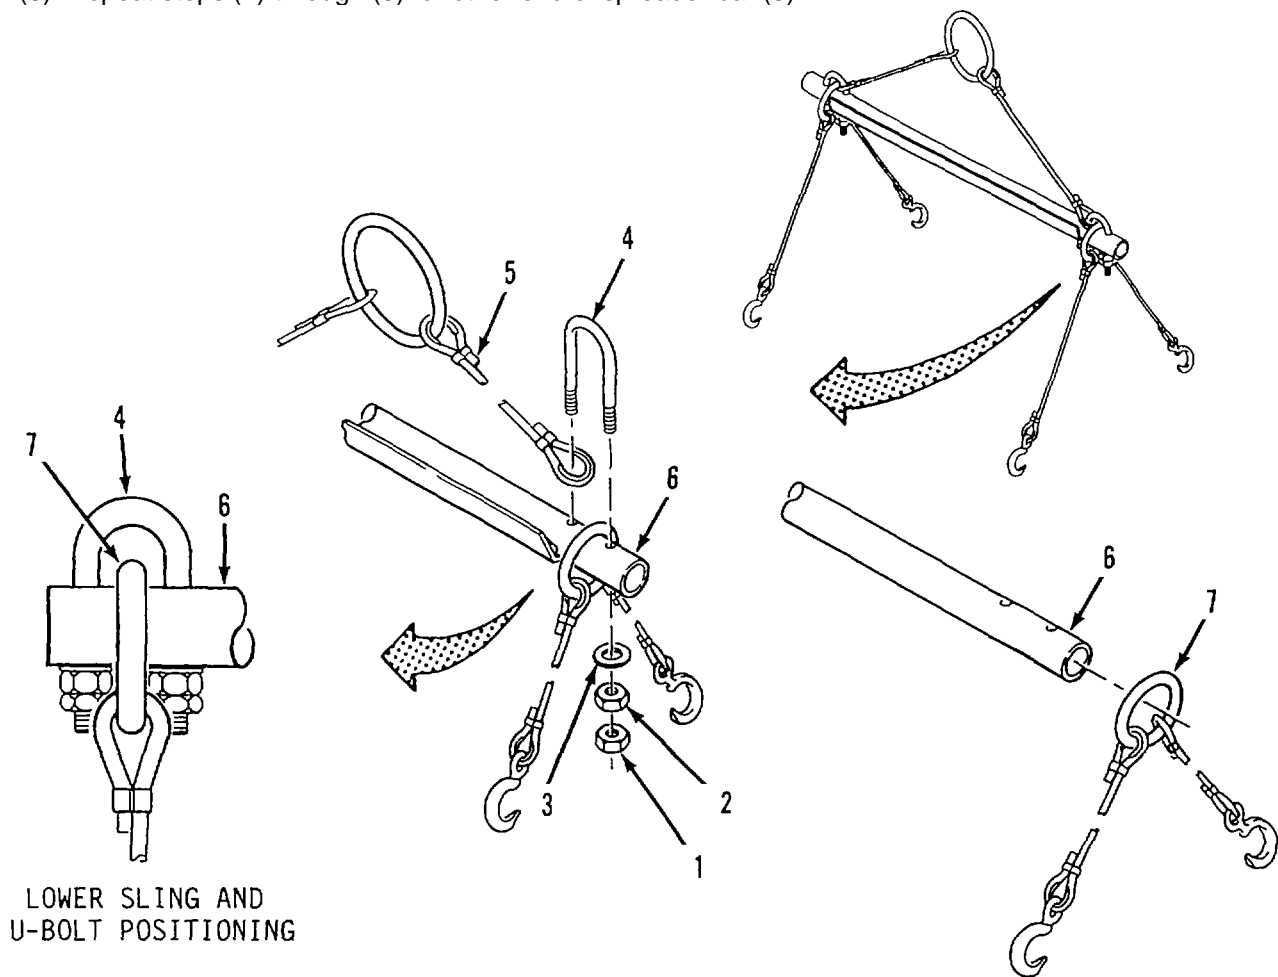

Figure 4-15. Sling Repair
a. Disassembly. Refer to figure 4-15.
- (1) Remove two nuts (1), nuts (2) and flatwashers (3) from u-bolt (4).
- (2) Remove u-bolt (4) from spreader bar (6).
- (3) Separate u-bolt (4) from loop in upper sling (5).
- (4) Remove lower sling (7) from spreader bar (6).
- (5) Repeat steps (1) through (4) for other end of spreader bar (6).
- (1) Inspect spreader bar (6) for cracks, enlarged u-bolt mounting holes and corrosion. Inspect for bent spreader bar.
- (2) Inspect upper and lower slings (5 and 7) for frays, kinks and broken strands of wire. Inspect hooks and rings for cracks.
- (3) Inspect u-bolt (4) and nuts (1 and 2) for damaged threads and corrosion.
e. Assembly. Refer to figure 4-15.
- (1) Position ring of lower sling (7) over end of spreader bar (6). Center ring between u-bolt mounting holes.
- (2) Place inside leg of u-bolt (4) through loop in upper sling (5).